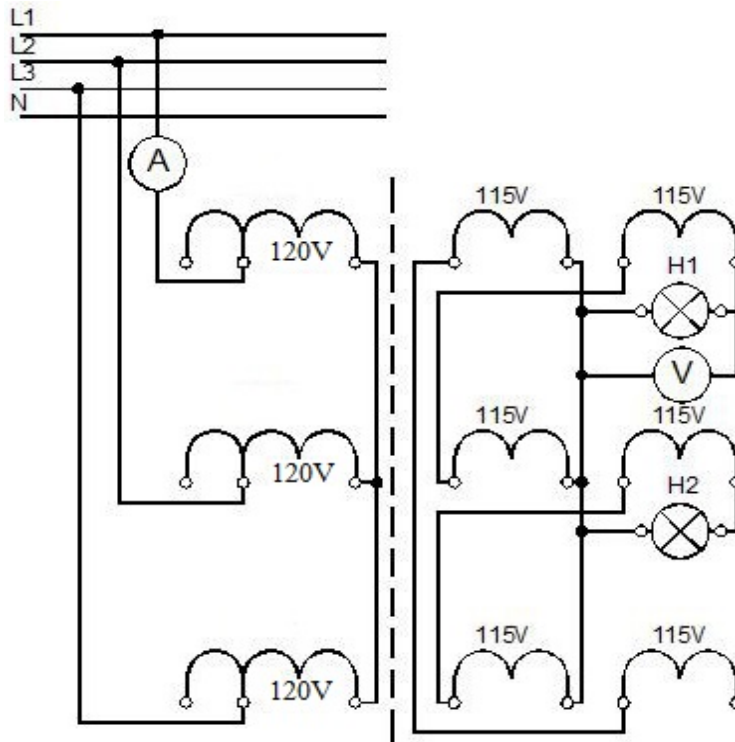

Figure 10:
1. Wire up the circuit in accordance with the set-up and wiring diagram of Figure 10.